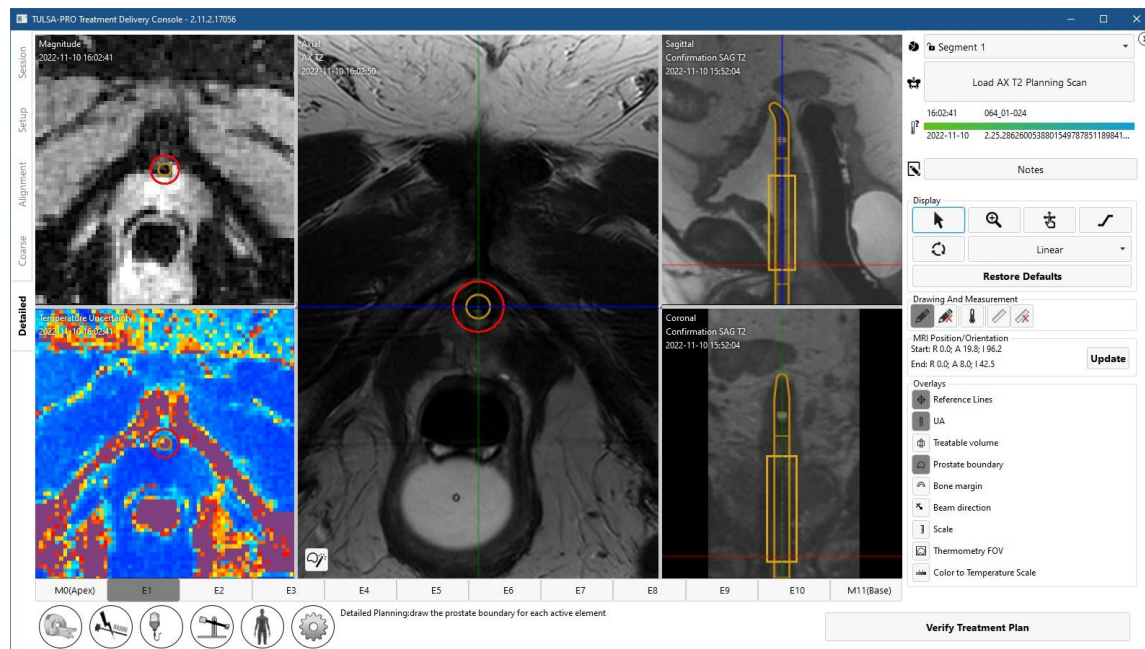

Figure 40: Detailed Planning workspace with Thermometry Magnitude and Temperature Uncertainty
8. Run AX THERM by clicking **Scan**. TDC will automatically receive the thermometry images. As the thermometry scans are received, the Magnitude and Temperature Uncertainty views will be displayed to facilitate treatment planning (Figure 40).